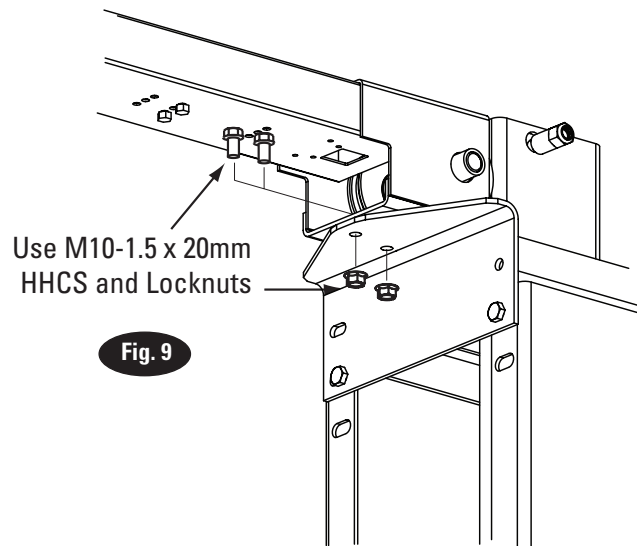

Fig. 9
**9. Overhead Installation:** Install overhead assembly to Mounting Bracket with (4) M10-1.5 x 20mm HHCS, and (4) M10-1.5 Flanged Locknut on both columns Fig. 9. Tighten bolts at center of overhead assembly.
**10. Power Unit:** First install a star washer onto all of the (4) 5/16"-18NC x 1-1/2" HHCS. This is very important for grounding. Put the (4) 5/16"-18NC x 1-1/2" HHCS thru holes in power unit bracket, Fig. 9. Mount unit with motor up to column bracket and install (4) 5/16" star washers and 5/16" Nuts. Install and hand tighten fitting to pump until O-ring is seated. Continue to tighten the locknut until the nut and washer bottom out against the pump manifold.